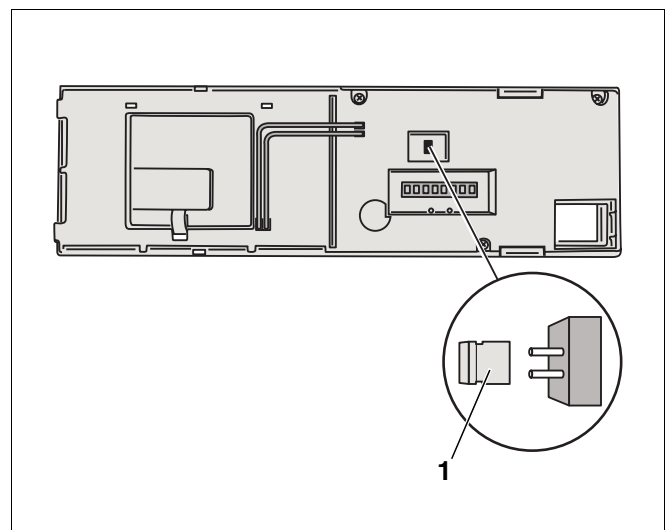

Fig. 15 Rear view of BC10 base controller
- If necessary, remove jumper (Fig. 15, **Item 1**) if you want to restrict boiler output.